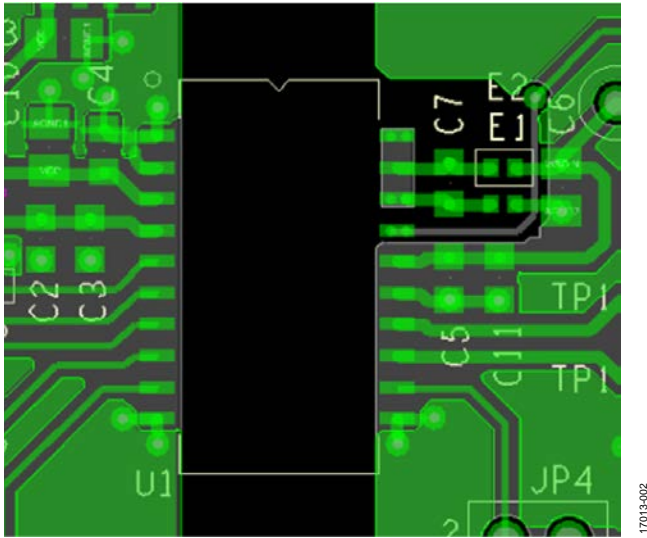

Figure 2. Layout Example for EVAL-ADM3055EEBZ
To pass EN55022 Class B on a 2-layer PCB, the following layout guidelines are recommended (refer to Figure 2 and Figure 5):
- Ensure that  $V_{ISOOUT}$  (Pin 19) is connected first through a ferrite before connecting the pin to the  $V_{ISOIN}$  (Pin 16), as shown in Figure 2.
- Ensure that  $GND_{ISO}$  (Pin 18) is connected by a trace to the other  $GND_{ISO}$  pin (Pin 20) on the inside (device side) of the C4 0.22  $\mu$ F capacitor, as shown in Figure 2.
- Ensure that there is a keep out area in the PCB layout around the ferrites, as shown in Figure 2 (no PCB planes under or alongside E1 and E2).